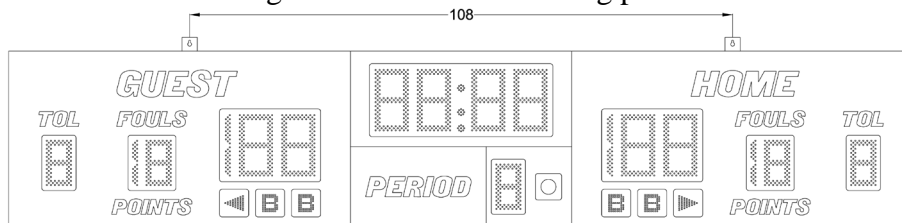

Figure 1 Model 2545 Mounting Points
3. Insert lag bolts or other suitable fasteners through the hanger brackets and fasten the scoreboard to the wall. Figure 1 shows the mounting point locations for model 2545.